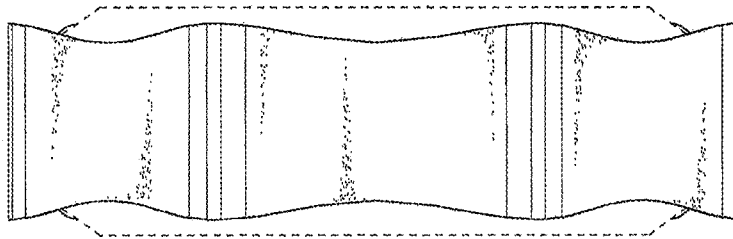

FIG. 24
*FIG. 24 is a right side-elevation view of the fourth embodiment. The left side elevation view is identical to the right side elevation view; and,*